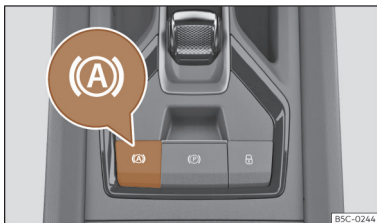

Fig. 153 In the lower part of the centre console: Auto Hold function button.
(A) The control lamp of the **(A)** button >>> **Fig. 153** remains on when the Auto Hold function is connected.